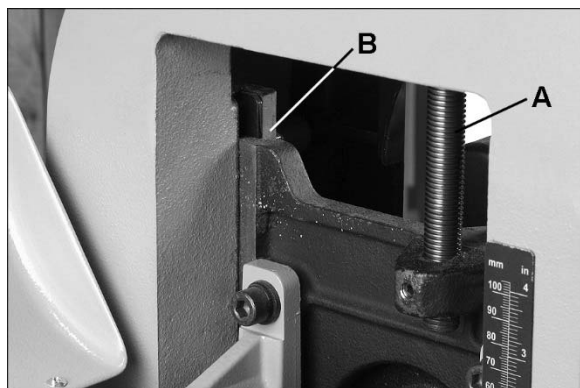

Figure 18
- Lubricate elevating leadscrew (A, Figure 18) as needed.
- Keep gib areas clean (B, Figure 18). Periodically lubricate gibs lightly with grease.